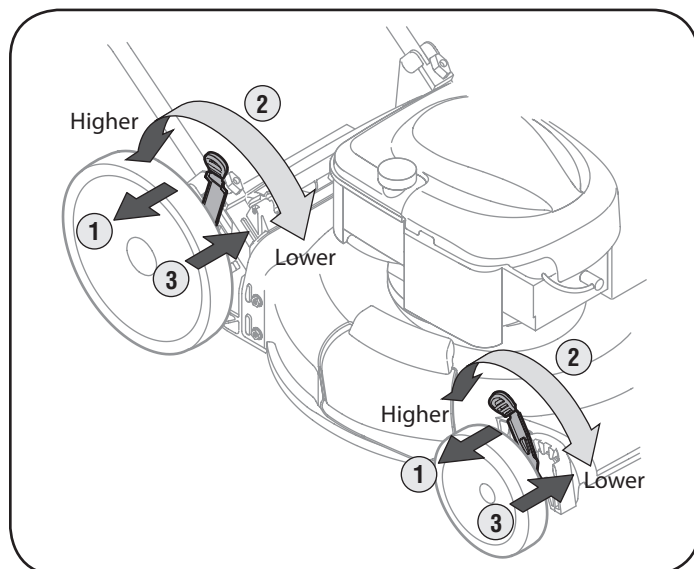

Figure 10
2. Move lever to desired position for a change in cutting height. See Figure 10.